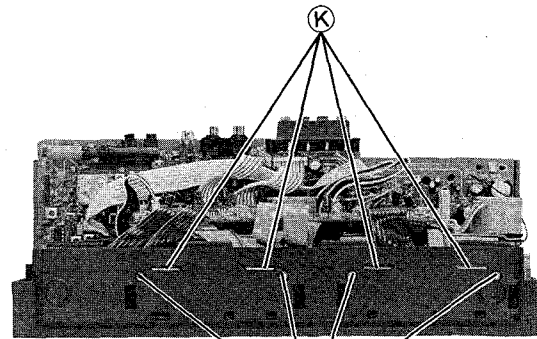

Figure 6
1. Remove four screws (T) and two screws (I). (Figures 6 and 7)
3. Remove hook (K) from front cabinet while pushing mecha assembly to the direction of screw (I), and the mecha assembly will be removed. (Figures 6 and 7)